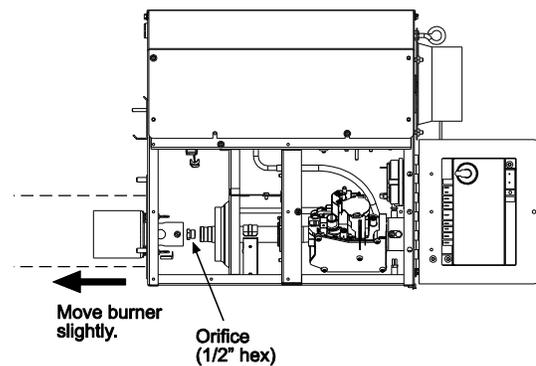

Figure 2
2. Push the main burner slightly to the left (see **Figure 2**) until the orifice can be reached. Remove the orifice with a 1/2" open end or box type wrench.